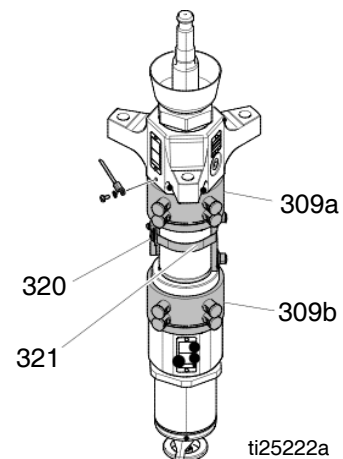

FIG. 29
13. Tightly strap the air motor to the tie bar with a cable through the air motor lift ring and around the tie bar. See FIG. 29, page 51.
14. Loosen u-bolts (X) from platen lift rods.
15. Remove nuts (F) from pump/air motor stand-off rods at the pump end.
16. Remove nuts (Z) and bolts holding cable track to air motor support plate.
18. Remove nuts (N) from follower lift rods.
19. Fully loosen pump rod coupler to the air motor rod (G).